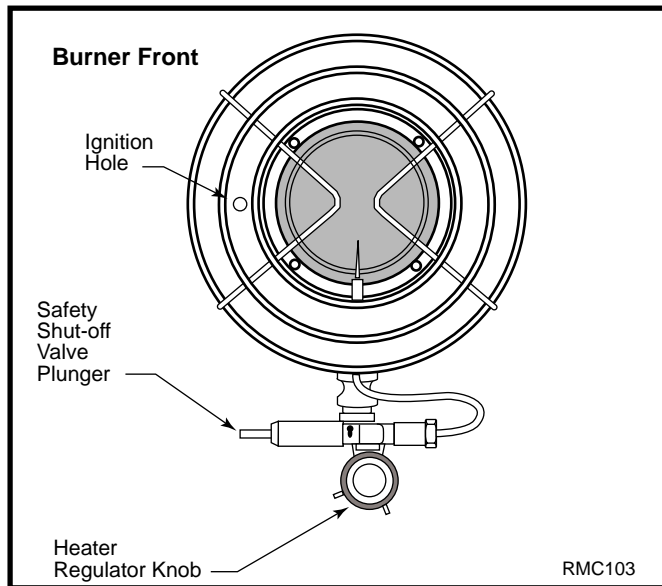

Fig. 3 Burner front.
4. Wait five (5) minutes to clear out any air. Then smell for gas, including near the floor. If you smell gas, STOP! Follow "B" in the safety information on the side of heater. If you do not smell gas, go to the next step.
5. Turn heater regulator knob counterclockwise  to "Hi" position. Press in safety shut-off valve plunger for five (5) seconds. (Fig. 3)
**NOTE:** The first time the heater is operated after connecting the gas supply, the safety shut-off valve plunger should be depressed for about thirty (30) seconds. This will allow air to bleed from the gas system.
7. Keep safety shut-off valve plunger pressed in for thirty (30) seconds after lighting pilot. After 30 seconds, release safety shut-off valve plunger.
1. Turn heater regulator knob counterclockwise to the "Hi" position. (Fig. 3)
3. Push in the safety shut-off valve plunger (Fig. 3)